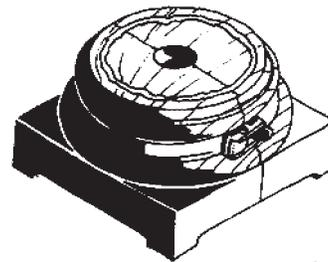

Figure 7
1. Assemble halves using screws and polyurethane adhesive on wood or polyurethane parts. Use a web/band clamp for a minimum of 24 hours (Fig. 7).